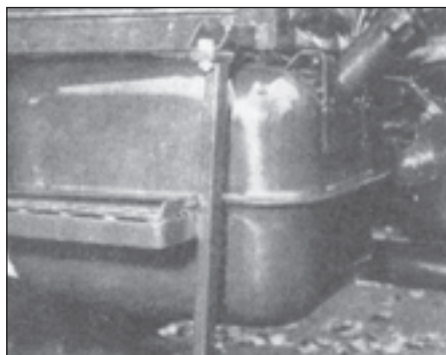

Fig. 146
- 70 litres for tractors Z 6211 to Z 7245 HORAL and Z 7711, Z 7745 (Fig. 146)